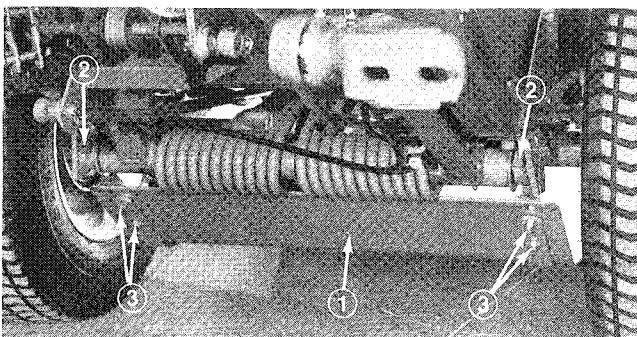

Figure 6
5. Secure Belly Shield to Belly Shield hooks with (2) 5/16 locknuts on each side (Fig. 6).